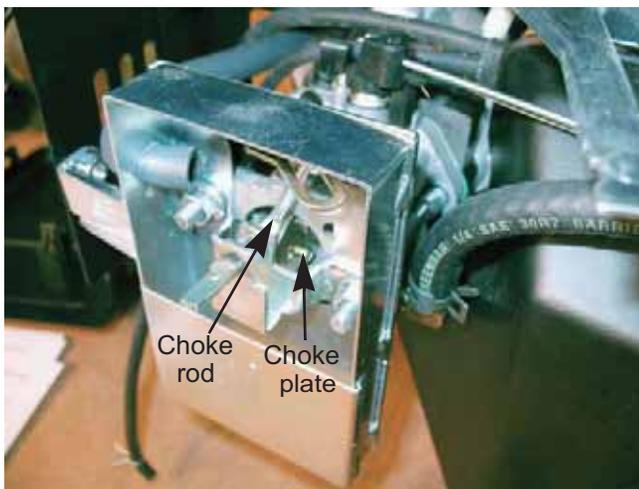

Figure 4.23
2. Rotate the choke knob shaft to verify full choke movement. See Figure 4.23.